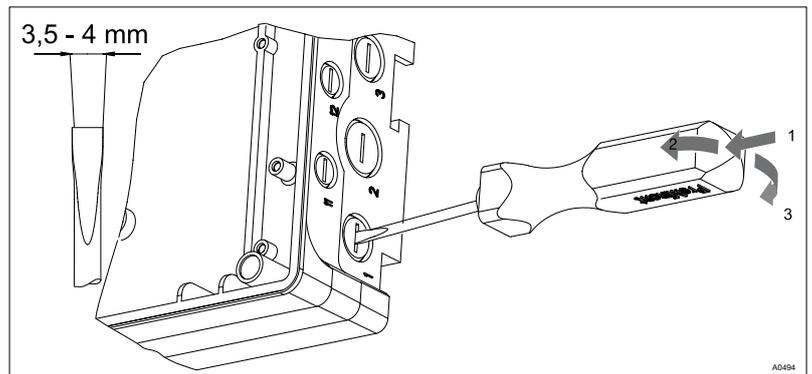

Fig. 10: Breaking out threaded holes
2. ➔ To break out the threaded holes, punch the slit in the middle of the threaded holes using a screwdriver (tip width 3.5 - 4 mm, see Fig. 10) and lever the material out